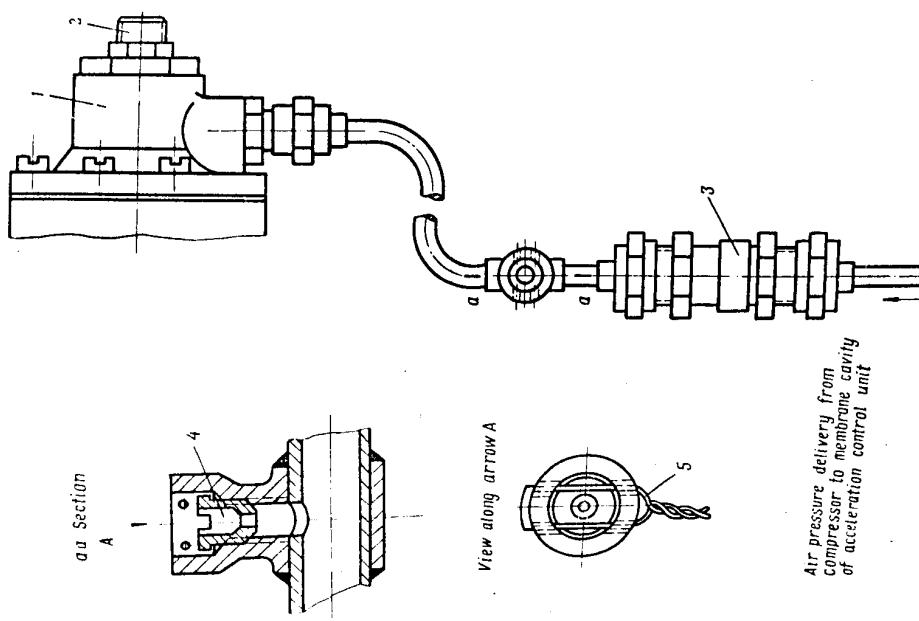

Fig.9. Air Supply to Acceleration Control Unit
3. Unlock the screw of the HP-10A pump distributing valve spring (See Fig.7, a-a Section) and the screw of the acceleration control unit spring (See Fig.7, R-R Section); unlock the air bleed jet located on the pipe serving for air delivery to the acceleration control unit (Fig.9).
3. Unlock the screw of the HP-10A pump distributing valve spring (See Fig.7, a-a Section) and the screw of the acceleration control unit spring (see Fig.7, R-T Section); unlock the air bleed jet located on the pipe serving for air delivery to the acceleration control unit (Fig.9).
7. Turn the air bleed jet into the pipe serving for air delivery to the acceleration control unit (See Fig.9). Remove the pipe with the pressure gauge and blank off the pipe union of the HP-10A pump.